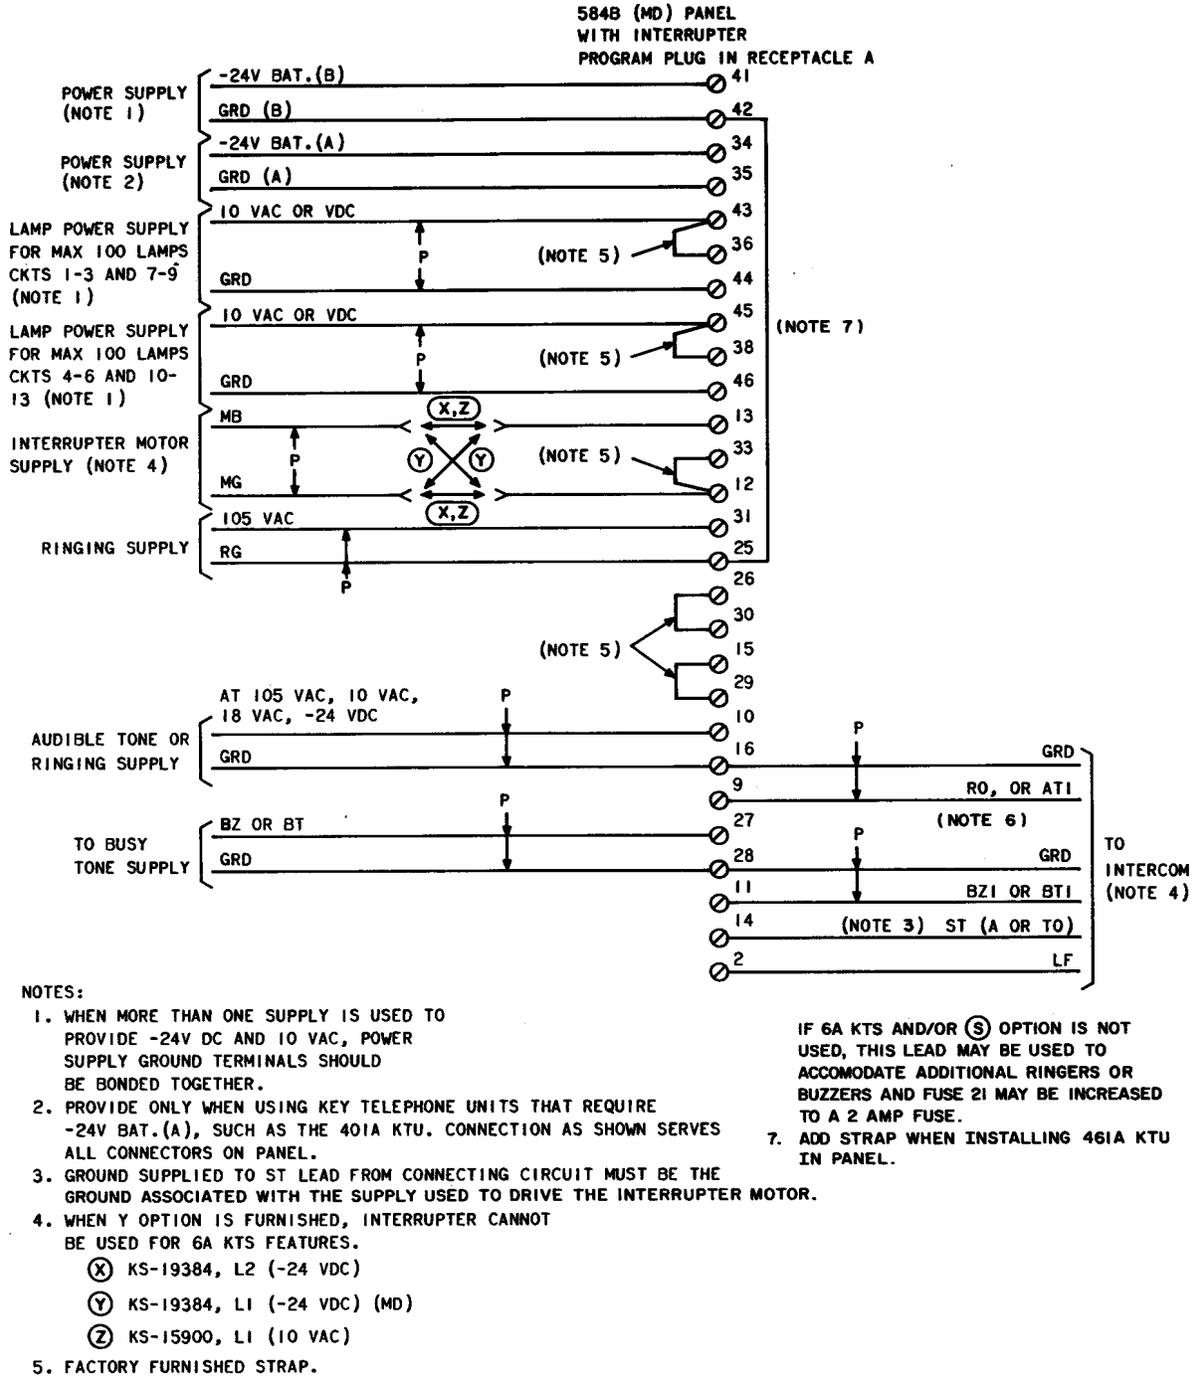

Fig. 6—584B (MD) Panel Equipped With Interrupter (Panel not used to control other panels)
- Fig. 6—584B (MD) Panel Equipped With Interrupter (Panel not used to control other panels)